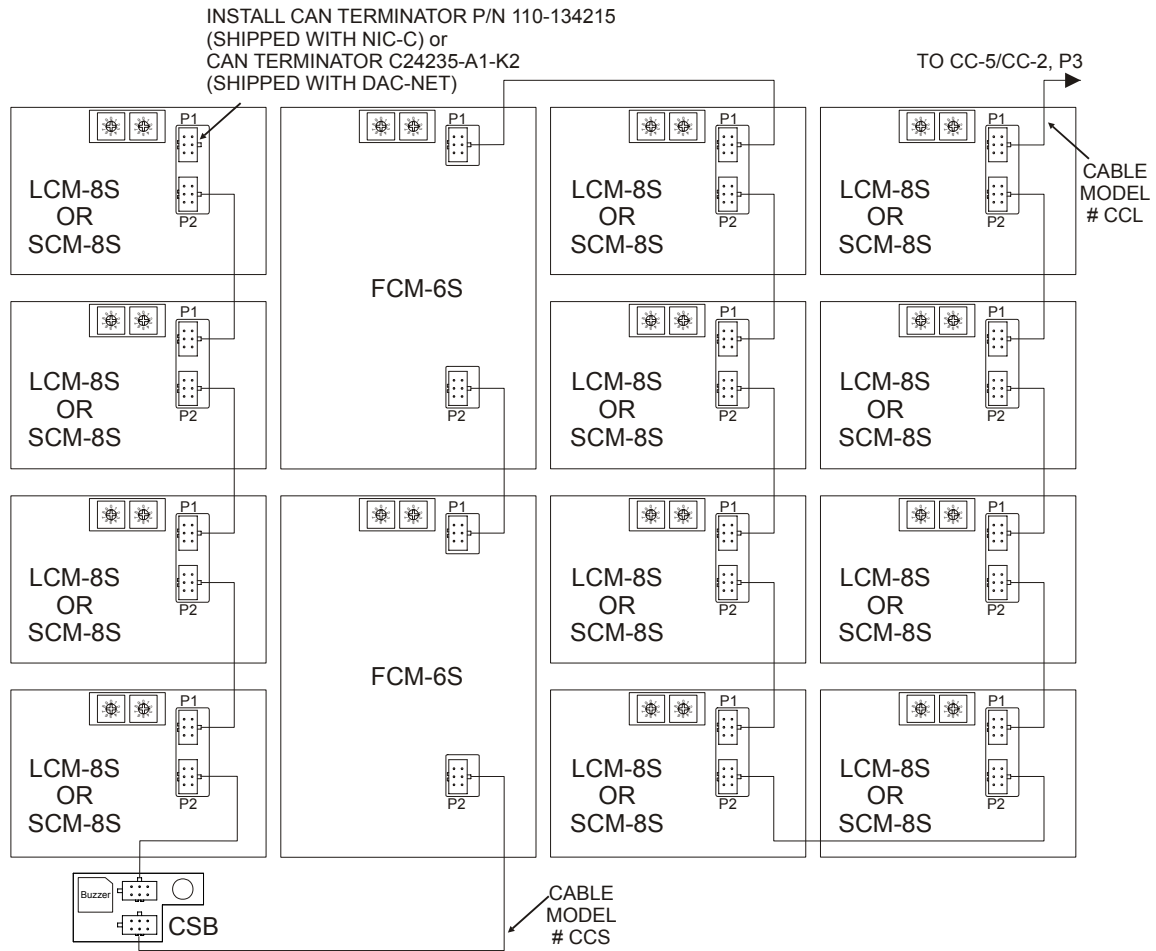

Figure 7 Typical Wiring For SCM-8S / LCM-8S / FCM-6S And CSB
- Cable connections for SCM-8S / LCM-8S / FCM-6S / CSB modules are shown in the following table and in Figure 7: